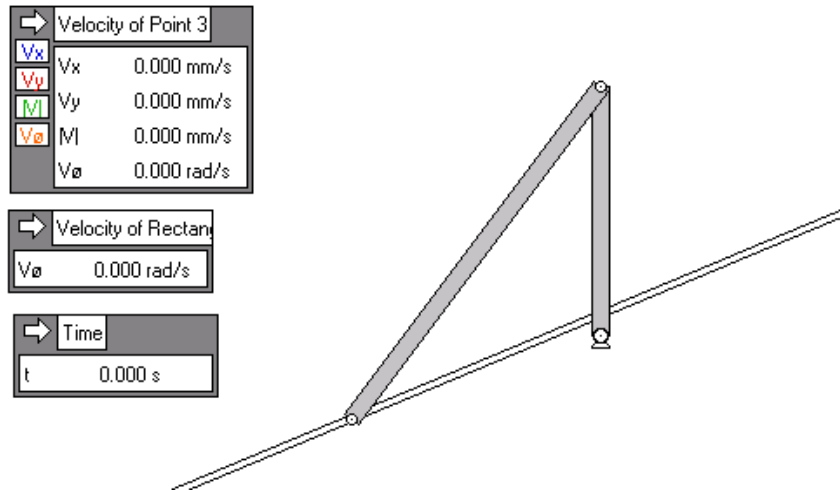

Figure 7
5. Click on Time on the Measure menu to place the time graph. Now, the workspace should look similar to the following Figure 7.